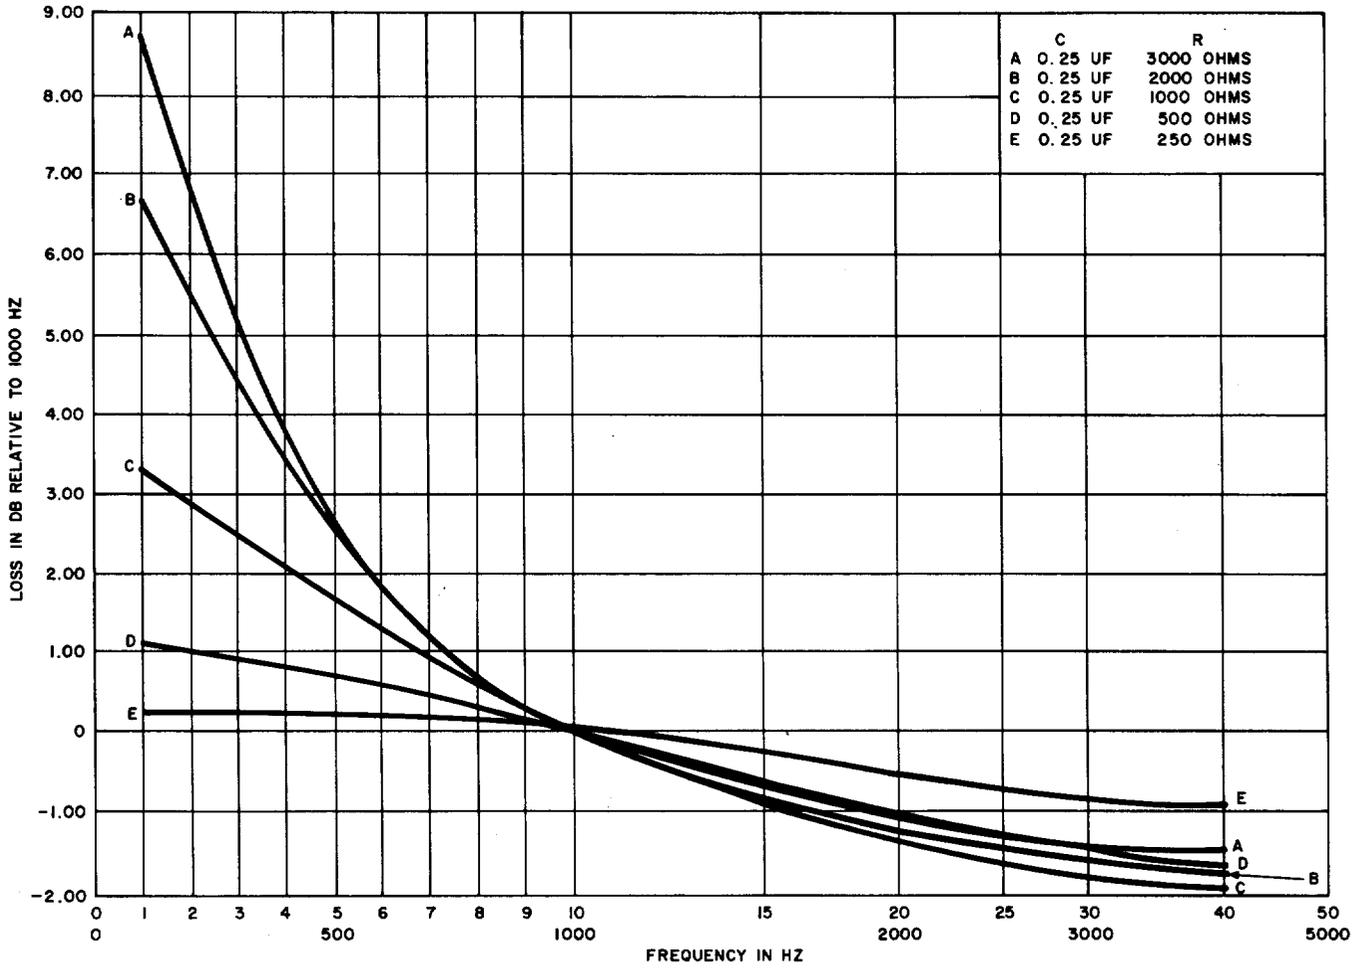
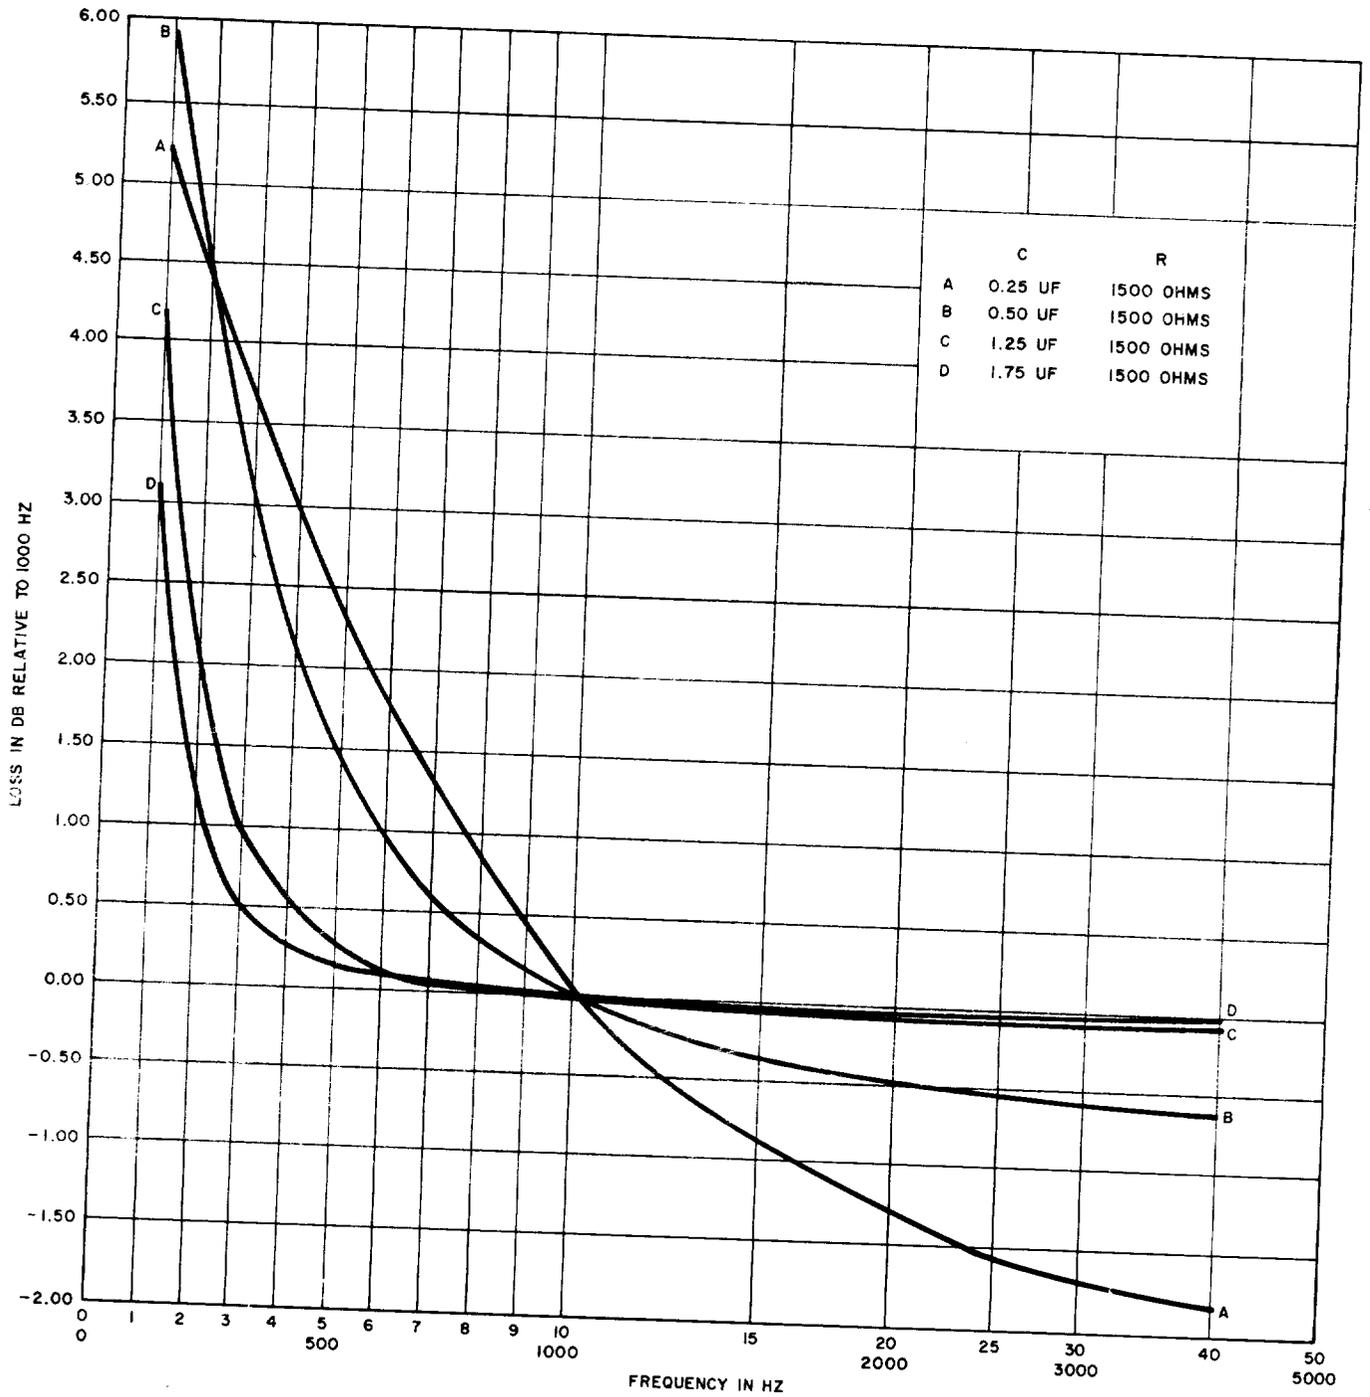

Fig. 4—359K Equalizer—Loss-Frequency Characteristics—Between 600 Ohms—
Fig. 5—359K Equalizer—Loss-Frequency Characteristics—Between 600 Ohms—
3.05 The 359K equalizer provides compensation for loss distortion in the 4-wire line facilities at frequencies up to approximately 1000 Hz. Figures 4 and 5 illustrate typical equalization losses which may be obtained by various combinations of C and R. Figure 4 shows the results of keeping C constant and varying R; Fig. 5 shows the results of keeping R constant and varying C. Adjustment settings of the equalizer normally used have little effect on either the transmission loss or the transmission frequency characteristics above 1000 Hz.